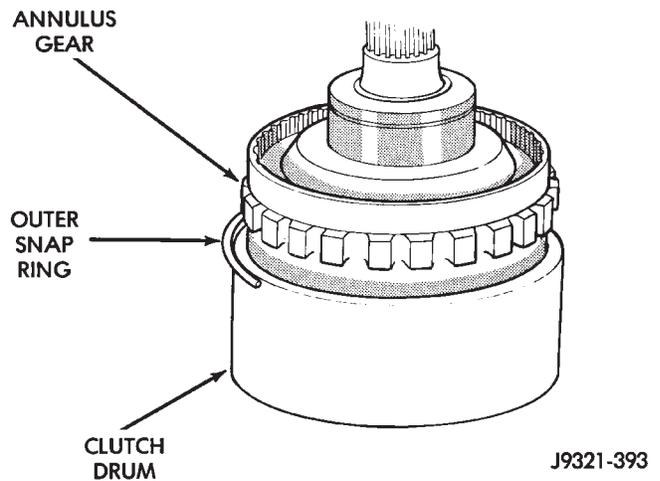

Fig. 237 Clutch Drum And Outer Retaining Ring Installation
- (4) Align and install clutch drum on annulus gear (Fig. 237). Be sure drum is engaged in annulus gear lugs.
- (5) Install clutch drum outer retaining ring (Fig. 237).